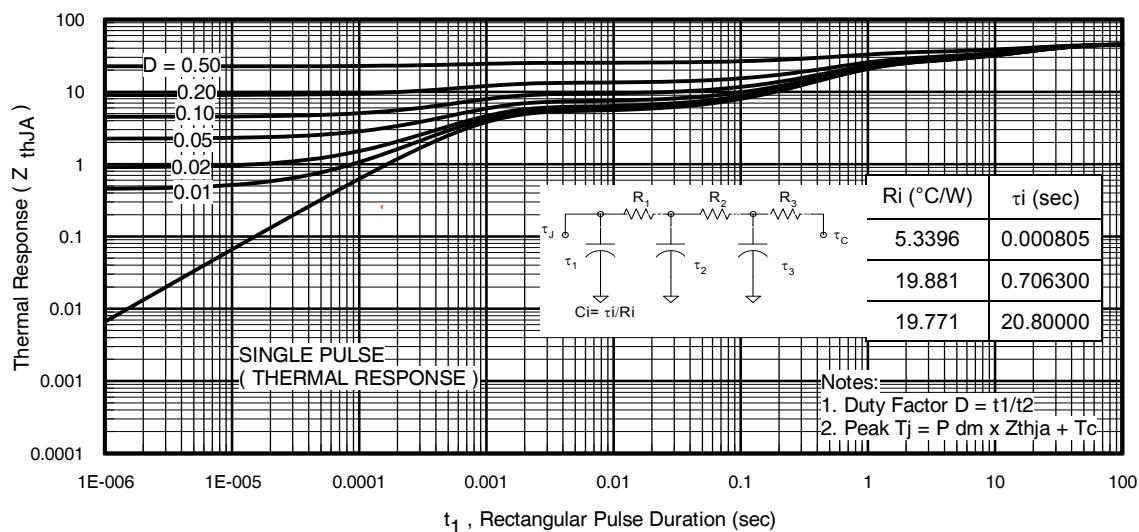
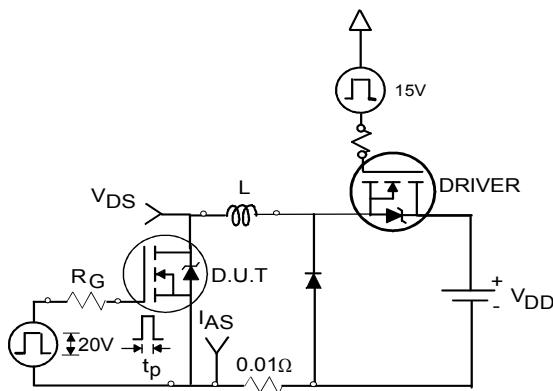

Fig 11. Maximum Effective Transient Thermal Impedance, Junction-to-Ambient
Fig 12a. Unclamped Inductive Test Circuit
- ① Repetitive rating; pulse width limited by max. junction temperature. (See fig. 11)
- ② Limited by T_{Jmax} , Starting $T_J = 25^\circ\text{C}$, $L = 4.8\text{mH}$, $R_G = 25\Omega$, $I_{\text{AS}} = 3\text{A}$, $V_{\text{GS}} = 10\text{V}$. Part not recommended for use above this value.
- ③ Pulse width $\leq 1.0\text{ms}$; duty cycle $\leq 2\%$.
- ④ $C_{\text{oss eff.}}$ is a fixed capacitance that gives the same charging time as C_{oss} while V_{DS} is rising from 0 to 80% V_{DSS} .
- ⑤ Limited by T_{Jmax} , see Fig.12a, 12b, 15, 16 for typical repetitive avalanche performance.
- ⑥ This value determined from sample failure population, starting $T_J = 25^\circ\text{C}$, $L = 4.8\text{mH}$, $R_G = 25\Omega$, $I_{\text{AS}} = 3.0\text{A}$, $V_{\text{GS}} = 10\text{V}$.
- ⑦ When mounted on 1 inch square copper board.
- ⑧ When mounted on FR-4 board using minimum recommended footprint.
3. Equation below based on circuit and waveforms shown in Figures 12a, 12b.